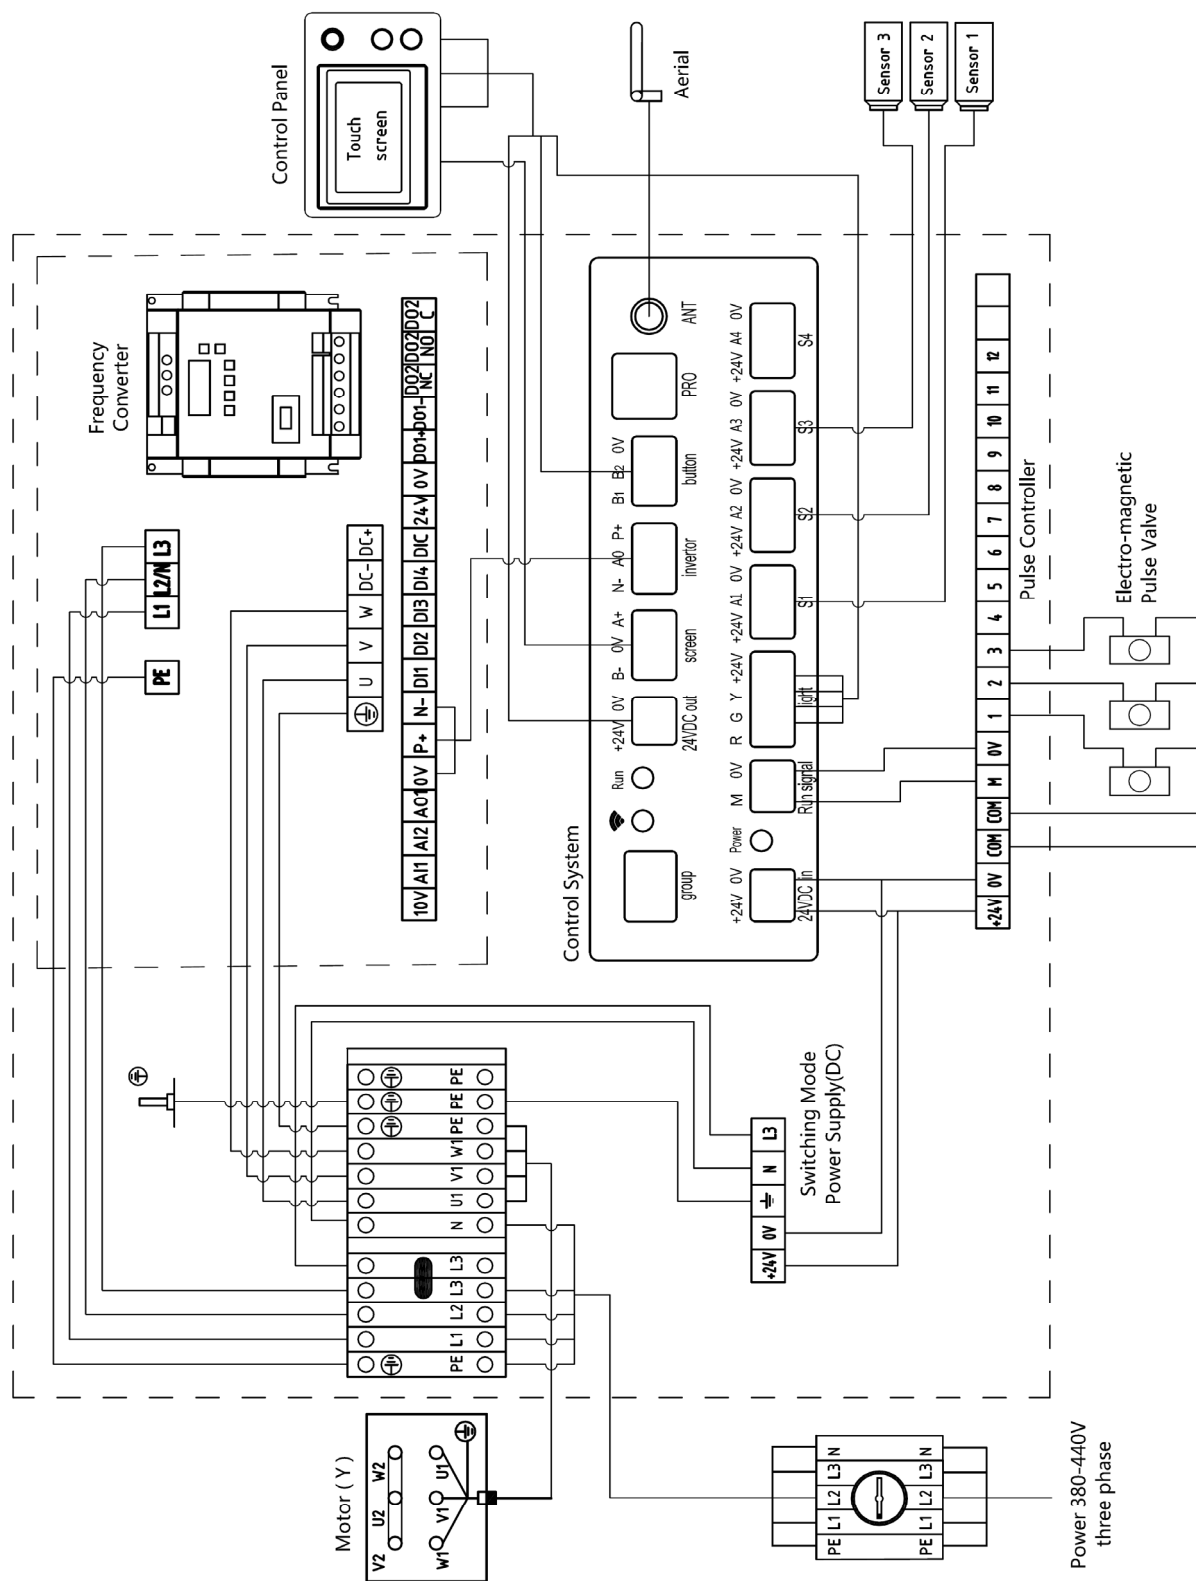

Fig.2
2.3.3 Electrical diagram(Fig.2)
Wire the machine as indicated on the name plate. Refer to the electricity diagram as shown in Fig. 2 if needed.